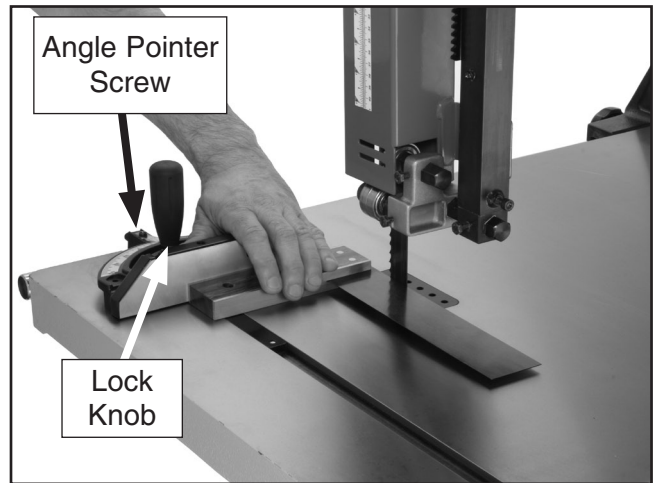

Figure 37. Example of squaring miter gauge to blade.
1. Place one edge of a machinist's square against the face of the miter gauge and the other against the blade face, as shown in **Figure 37**.